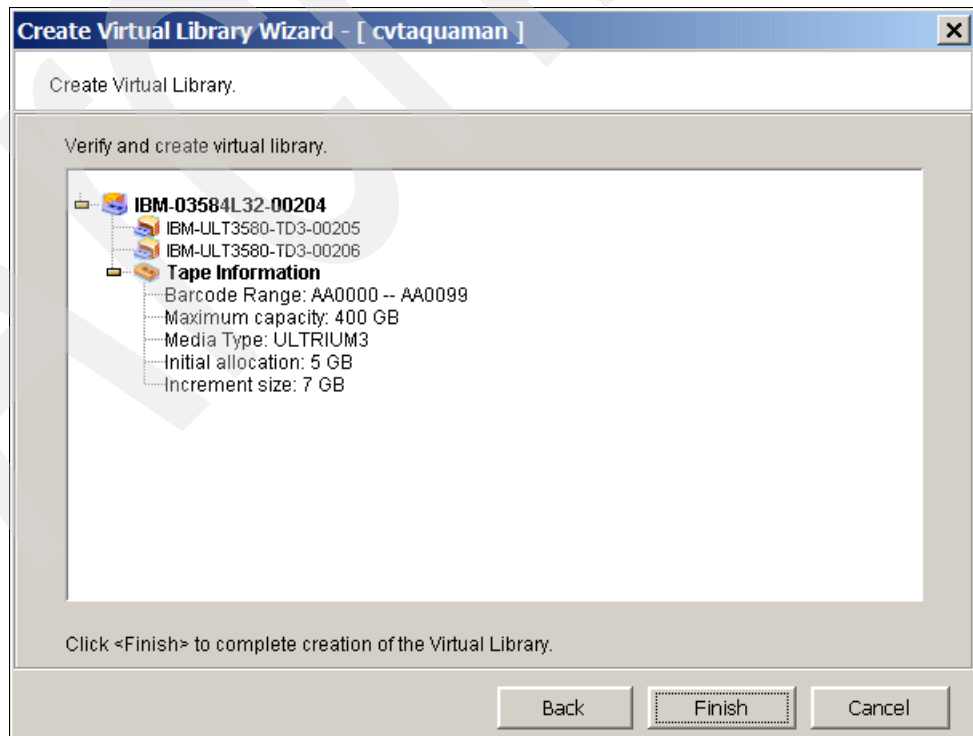
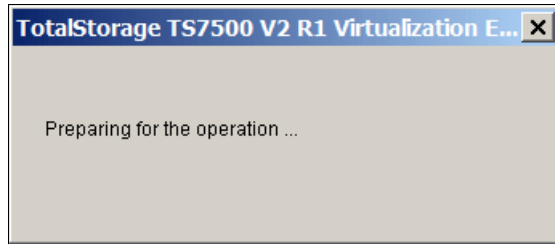

Figure 8-12 TS7500 - virtual tape library is created
Figure 8-13 TS7500 - virtual tape library creation in progress
- In the *Create Virtual Library* panel (Figure 8-12), verify the details and click **Finish** if it is correct. Then the virtual library is created and creation status is shown (Figure 8-13). Click **Finish**.